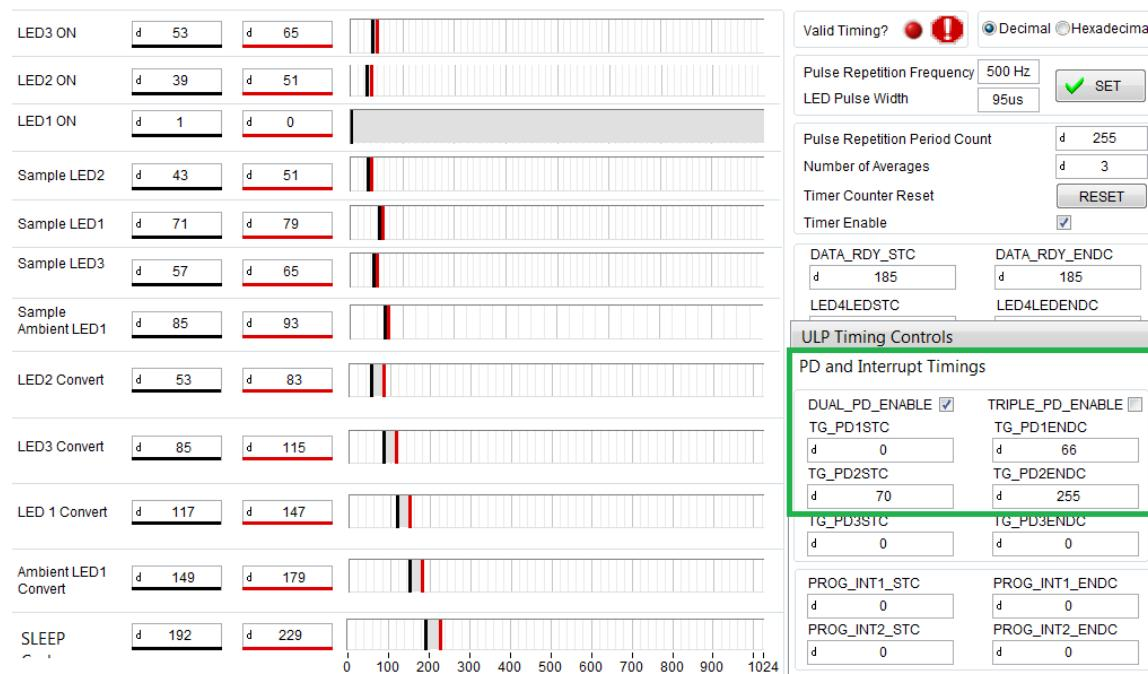
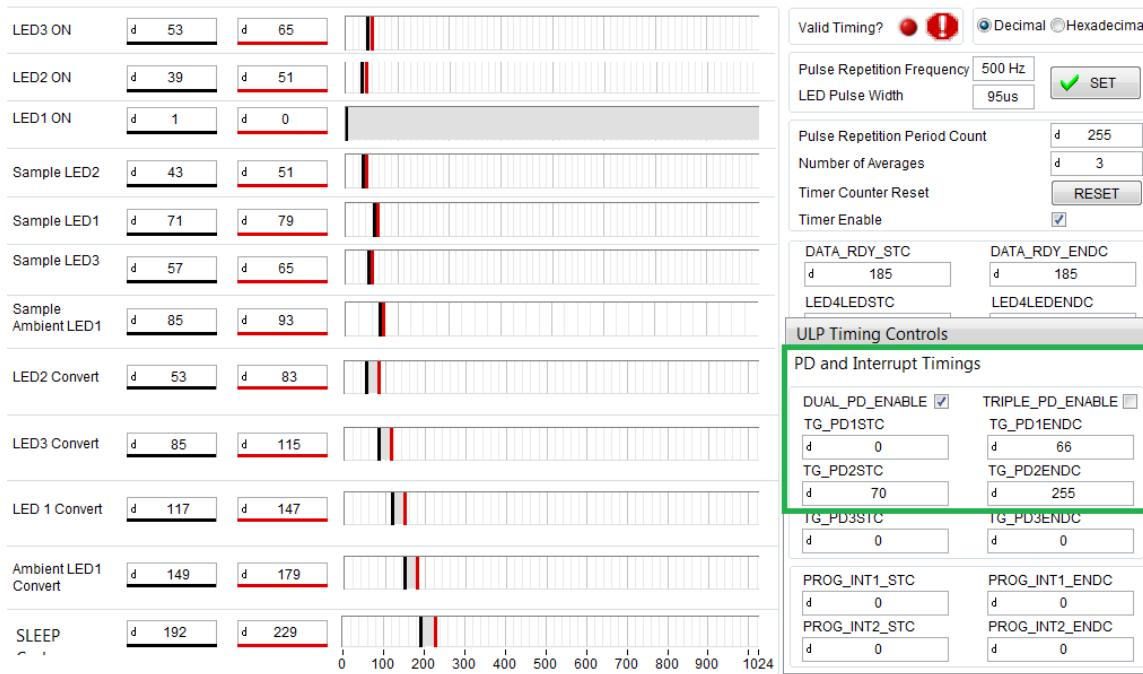

Figure 31. Timing and Settings for SFH 7072 PPG Sensor
Figure 32. Timing and Settings for OCS112 PPG Sensor
- LED4 (IR) of the SFH7072 = connected to TX3 of the AFE4900 device
- The Dual_PD_Enable bit is set in the 0x4E register in the AFE4900 device (see Figure 31).
Because this sensor has only one PD, the Dual_PD_Enable bit is not set in the 0x4E register in the AFE4900 device (see Figure 32). PD1 of the AFE4900 device is always connected to PD of the sensor.
NOTE: Figure 31 and Figure 32 are screen shots from the AFE4900EVM GUI (available at AFE4900EVM).